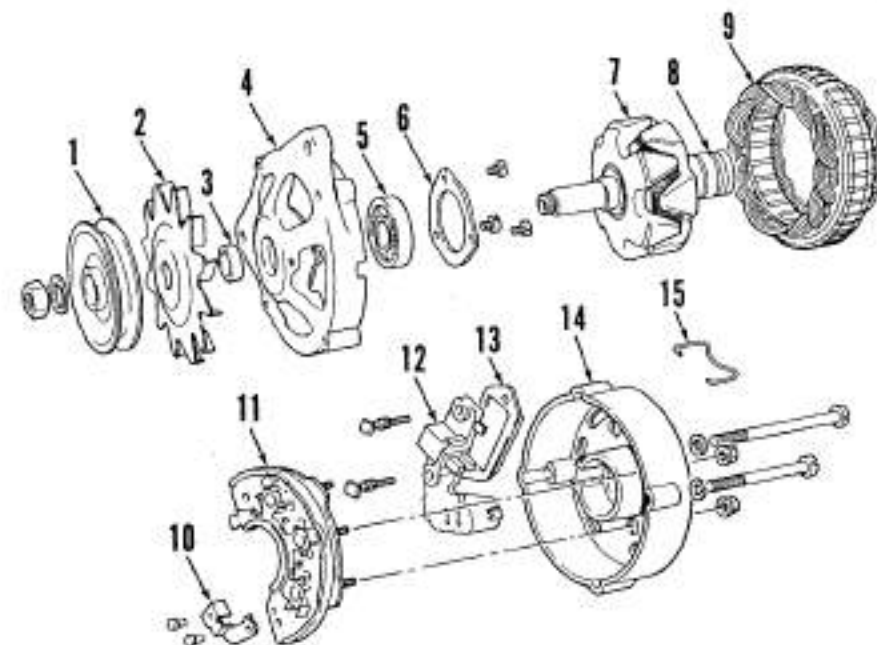

Fig. 108—Exploded view of Perkins alternator used on some MF240 and MF250 tractors.
**106. OVERHAUL.** Prior to disassembly, scribe matching marks across end frame (4—Fig. 108) and rear housing (14) to ensure correct alignment for reassembly. Remove four through-bolts, then separate end frame with rotor from rear housing and stator. Hold rotor in a vise, then remove pulley nut, pulley (1), fan (2) and spacer (3) from rotor shaft. Separate rotor from end frame. Remove front bearing (5) from end frame and rear bearing (8) from rotor if necessary.